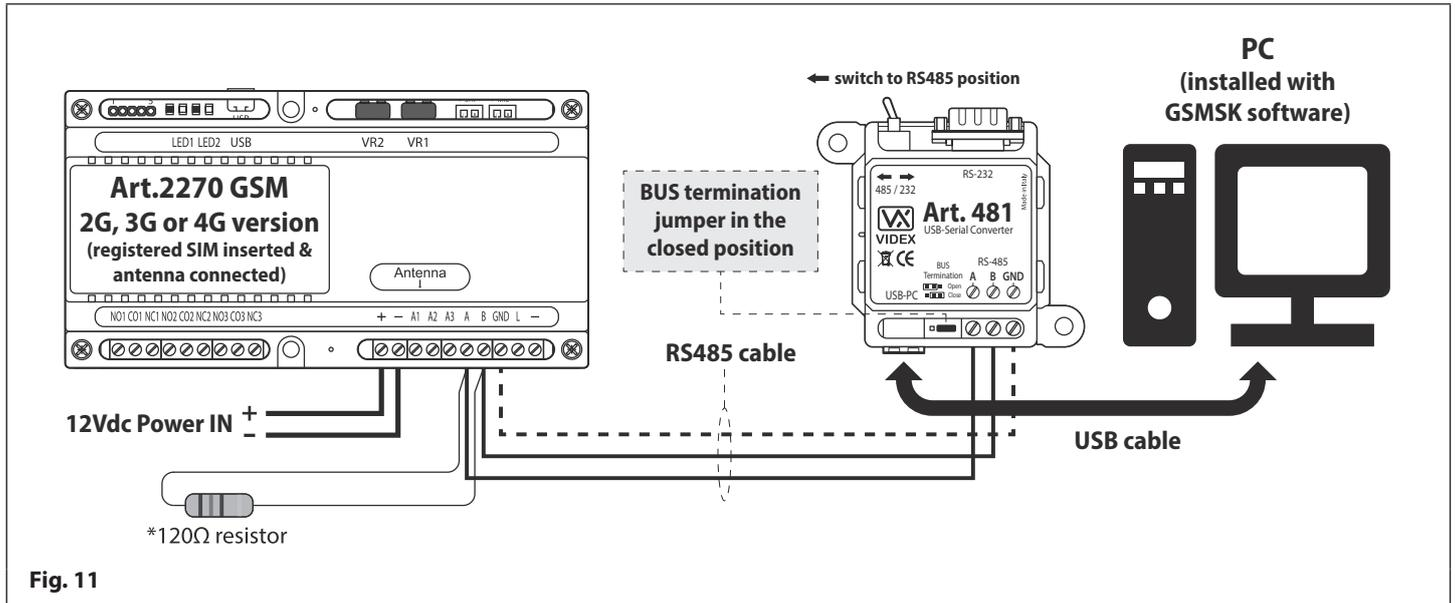

Fig. 11
The Art.2270 GSM module can also be connected using an RS485 bus connection via an RS485 to USB converter (Art.481) with a standard USB cable then connected directly to the PC, as shown in Fig.11.
*For end of line termination a 120Ω resistor must be fitted across the RS485 terminals A and B, as shown in Fig.11 above, but only if the Art.2270 GSM module (2G, 3G or 4G) is the last device in line and over a great distance (500m max.). Over shorter distances (up to 100m) the 120Ω resistor is not required and the bus termination jumper on the Art.481 can be set to the OPEN position.